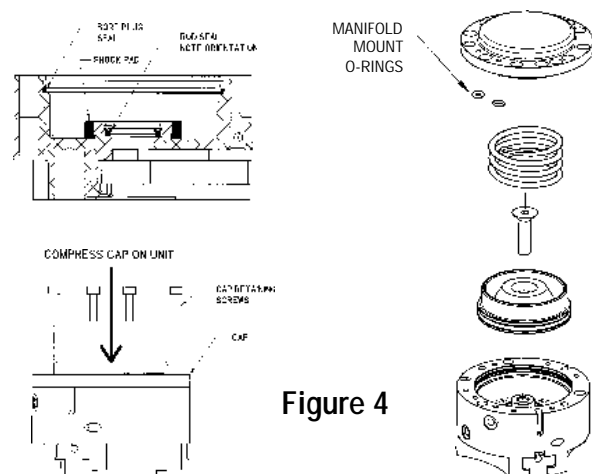

Figure 4
4. Lubricate the bore plug seal groove and install the seal in the groove closest to the gripper bore. (Figure 4)